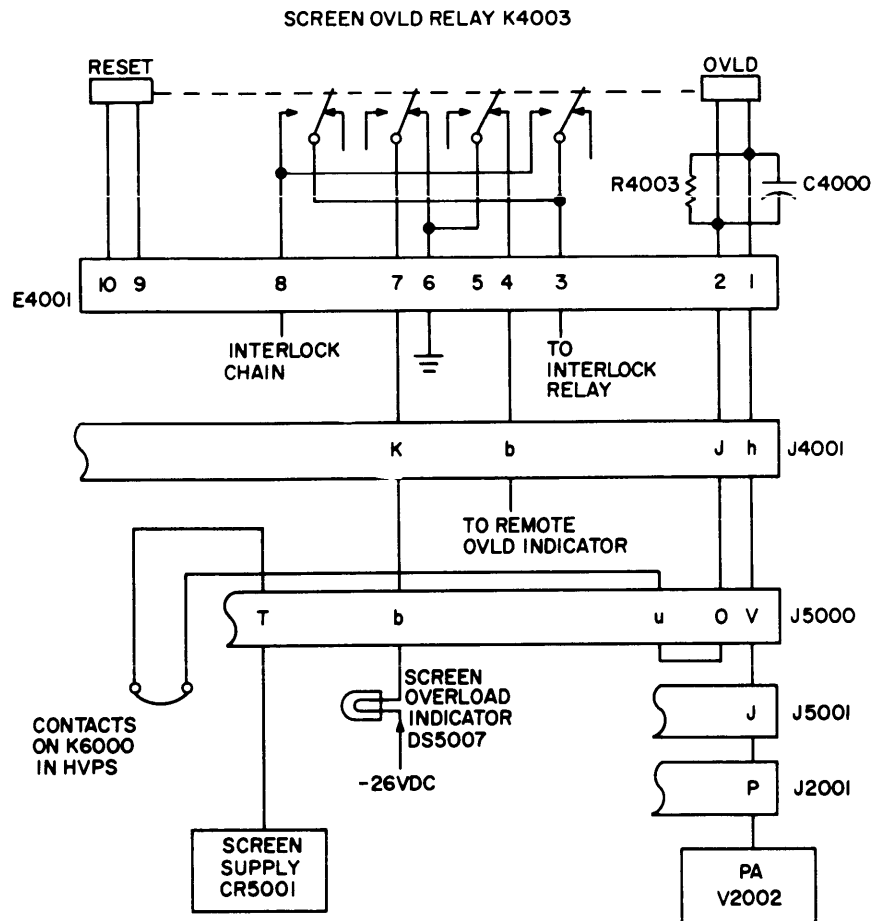

Figure 4-2. Screen Overload Relay K4003
a. SCREEN OVERLOAD RELAY (refer to figure 4-2) - The screen overload relay K4003 protects the final PA tube by removing the high voltage when the PA screen grid draws too much current.